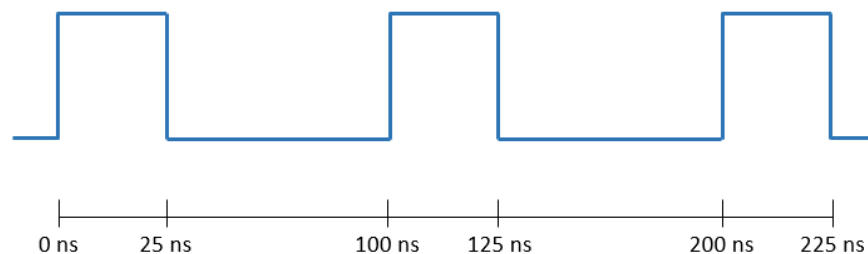

Figure 1
2. Answer the following given the example shown below in Figure 1.